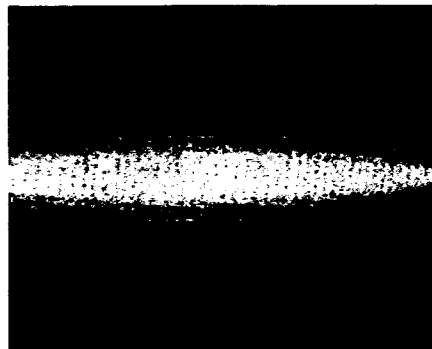

Figure 5-6. Waveform at A13TP1.
g. Adjust "OFS-1" potentiometer A13R1 until dc level of displayed waveform is 0mV  $\pm$ 1mV. Refer to Figure 5-6 which shows well adjusted waveform.